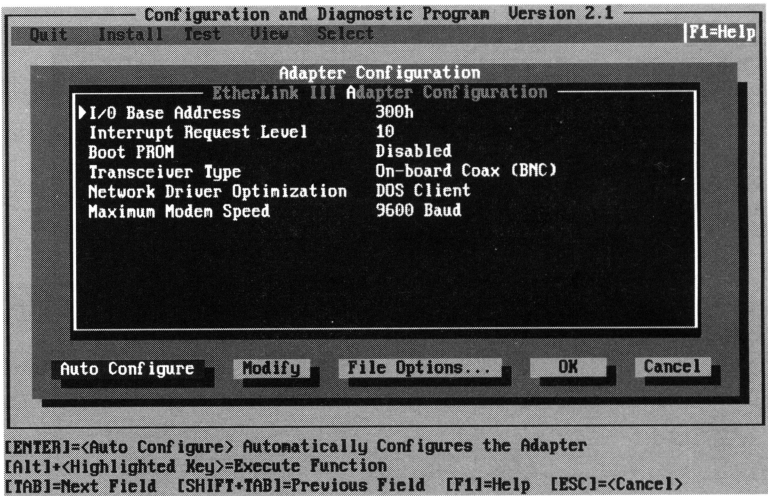

Figure 2-5. Configuration Dialog Box
A configuration screen similar to that shown in Figure 2-5 appears.
- 4. **From the screen similar to the one shown in Figure 2-5, make sure the <Auto Configure> command button is highlighted and press [Enter].**
A screen similar to the one shown in Figure 2-5 appears.